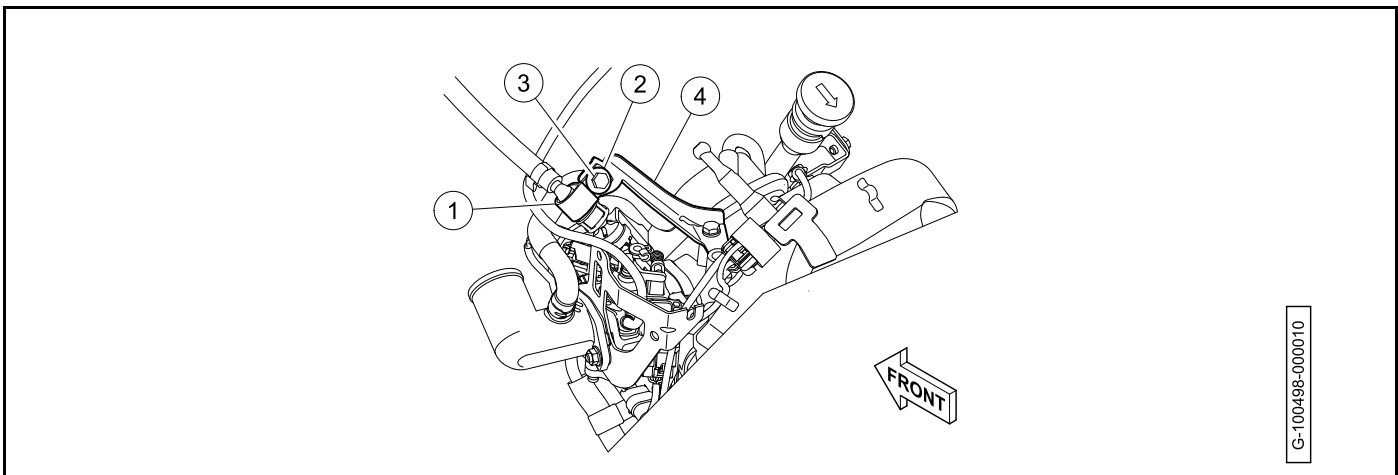

Figure 21-16
5. Install the P-clamp (1), washer (2), and bolt (3) onto the fuel line support bracket (4) (**Figure 21-16**). Tighten the bolt to 93 to 111 in·lb (10.5 to 12.5 N·m).